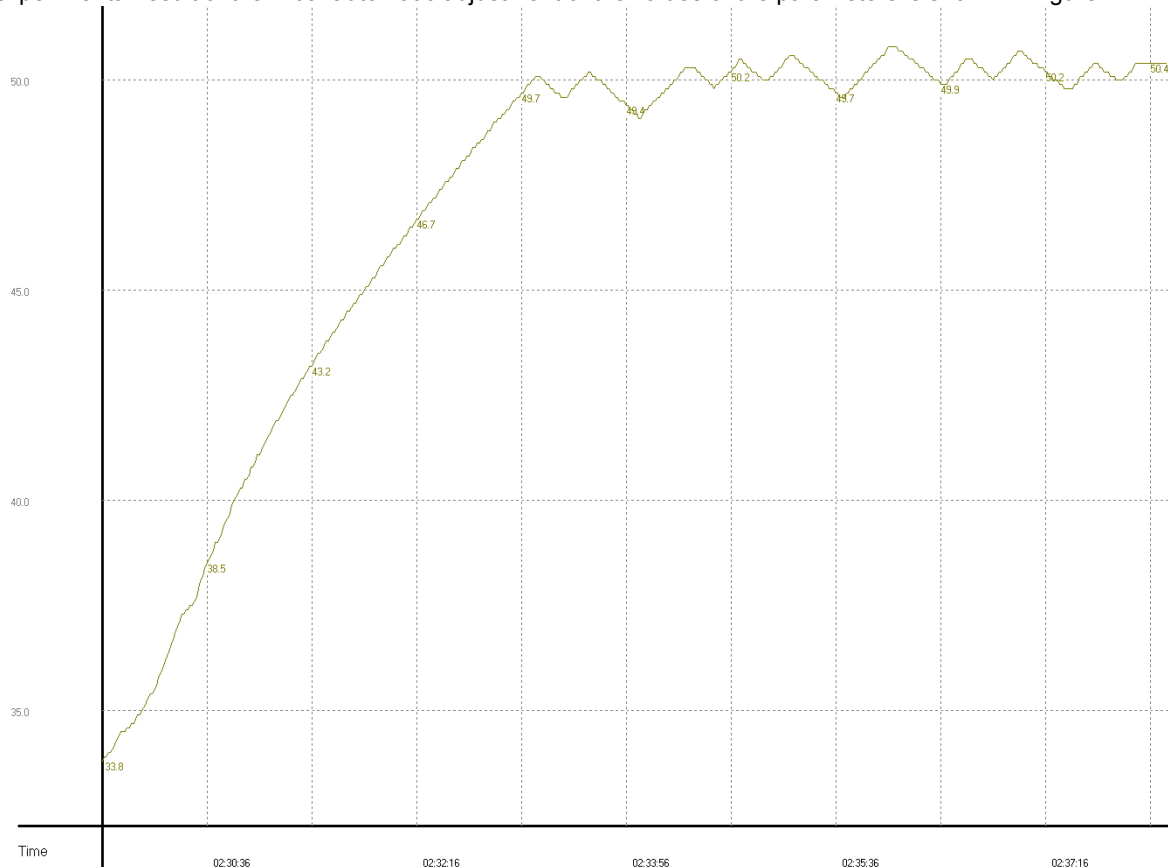

Figure 11
- When the temperature measured is constant and is 50°C, the best values of the DPIDE temperature control parameters (the  $K_p$  in D110~D111, the  $K_i$  in D112~D113, and the  $K_d$  in D114~D115) are calculated automatically. The experimental result of the initial adjustment of the values of the parameters is shown in Figure 11.
The experimental result of the initial automatic adjustment of the values of the parameters is shown in Figure 11.